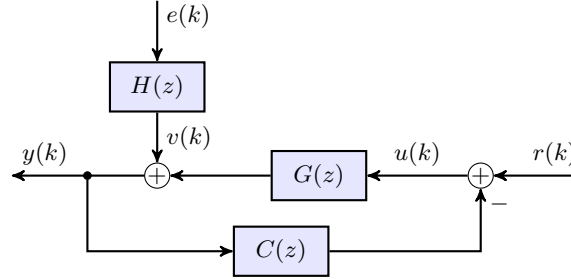

Figure 1: Structure of the control loop
- 2) Another experiment was performed for a *different* system of the same form as in Figure 1, but here the signal $u(k)$ is *not* measured. However, the structure of the system is partially known. In particular, for this part you know that